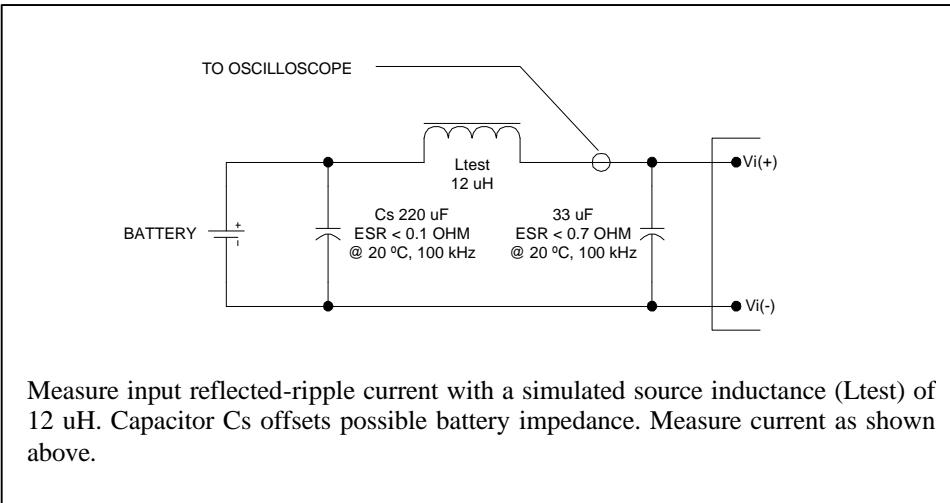

Figure 1. Input Reflected Ripple Current Measurement Setup.
- Refer to Figure 1 for the input ripple current test measurement setup.